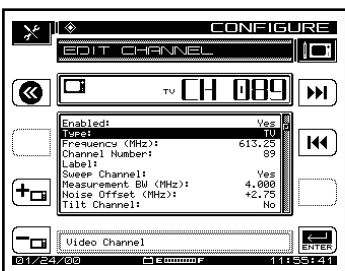

Figure 16
**EXAMPLE:** Channel 89 is being converted from a video channel to a digital channel. The video frequency is 613.25 MHz, and the measurement BW is 4 MHz (Figure 16). After converting the channel to a digital carrier, the center frequency is 615.00 MHz, and the measurement bandwidth is 5.6 MHz (Figure 17).